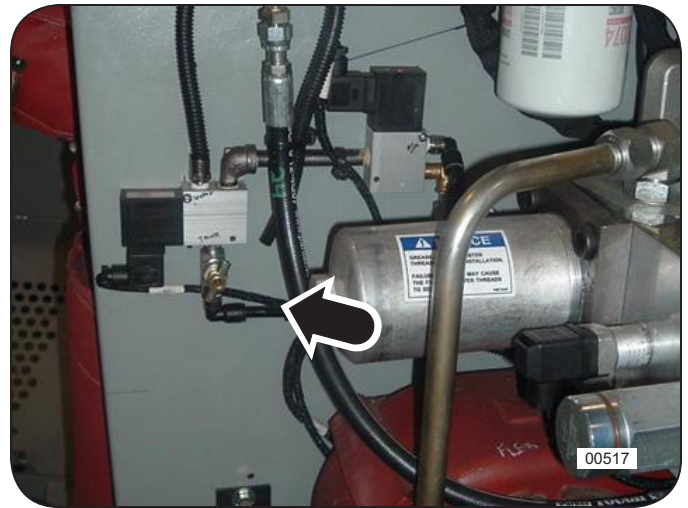

Figure 16: Turbo Boost Release Valve
2. Release turbo boost pressure in the hydraulic tank at the turbo boost release valve. See Figure 16.